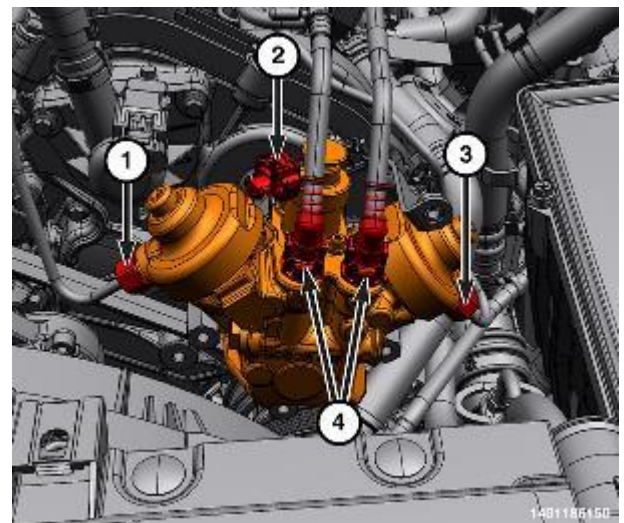

Figure 98 – Fuel Rail Supply Tubes
12. Disconnect the low-pressure fuel supply/return lines (4) (Figure 98).
13. Disconnect the fuel quantity solenoid wire harness connector (2) (Figure 98).
14. Remove the fuel rail supply tubes (1 and 3) from the HPFP (Figure 98).